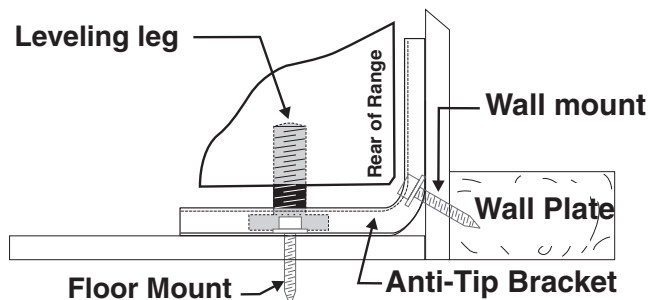

Figure 14
6. Slide range into place making sure structure of the range is trapped by the anti-tip bracket (Figure 14). Lower the range by adjusting the levelling legs until the underside of the cooktop is sitting level on the countertop. Refer to "Levelling the Range" section.